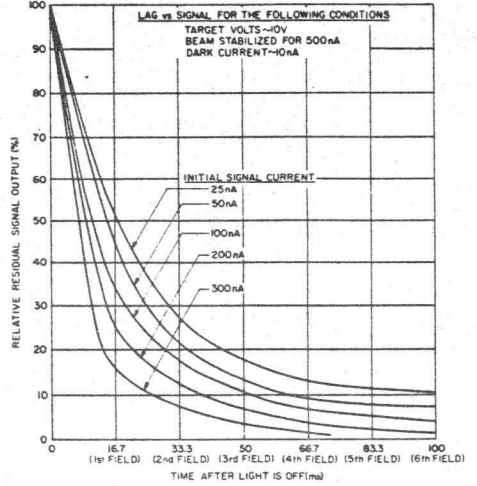

Figure 2 Typical Sivicon Decay Lag Characteristics
22. Measured with an initial net highlight signal current of 200 nA (17). The sequence of the measurement is as follows: The illumination is turned off at  $t = 0$  immediately preceding a read-out of the initial signal. This read-out is labeled the "zereth" field. The first residual signal occurs subsequently at  $t = 16.7$  msec., i.e., in the first field. The value of lag listed is the magnitude of the residual signal in the 3rd field, i.e., at  $t = 50$  msec. For other signal currents, see Fig. 2.
24. The target voltage (Vt) is typically in the range between 5 and 15 volts with respect to the cathode. For each tube Vt is individually selected and specified for that tube. (26) This is to achieve an optimum operating point consistent with optimal beam acceptance and to optimize other performance characteristics, such as dark current, blemishes, uniformity and lag. Sivicon tubes do not permit automatic sensitivity control by means of regulation of the target voltage. Adequate control can be achieved by other means, e.g. lens iris control, neutral density filters and/or automatic video gain control (AGCL). If the Sivicon tube is to be used in cameras originally designed for vidicon tubes, the automatic sensitivity control circuitry should be made inoperative and the target voltage set to the value specified for that Sivicon tube (26).
Lag (Persistence) (See Figure 2) Residual Signal after 50 msec. (26)	10% (20 nA)